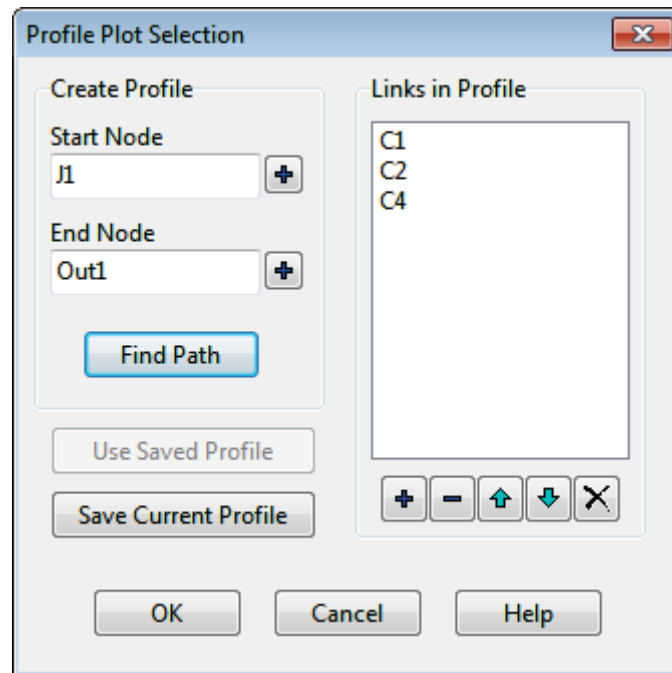

Figure 2-16 Profile plot dialog
2. Either enter *J1* in the **Start Node** field of the Profile Plot Selection dialog that appears (see Figure 2-16) or select it on the map or from the Project Browser and click the  button next to the field.